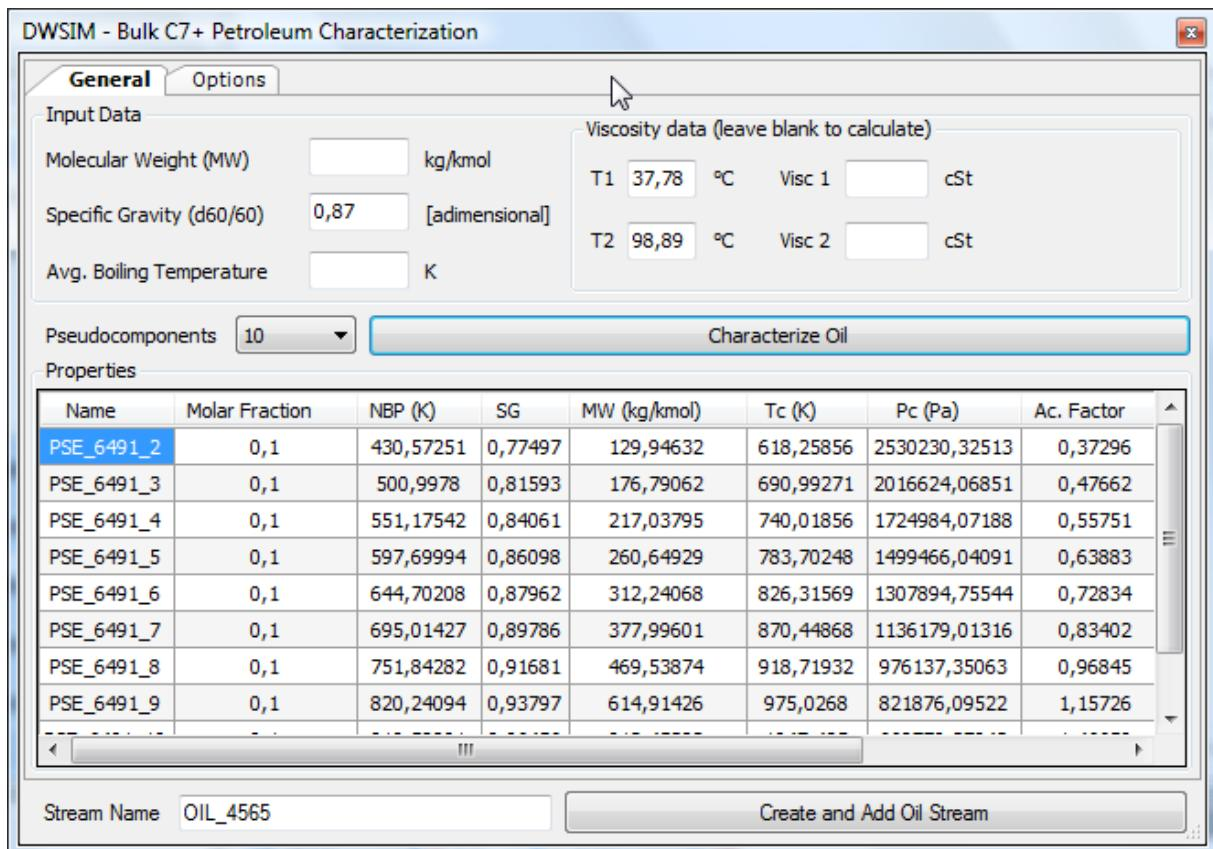
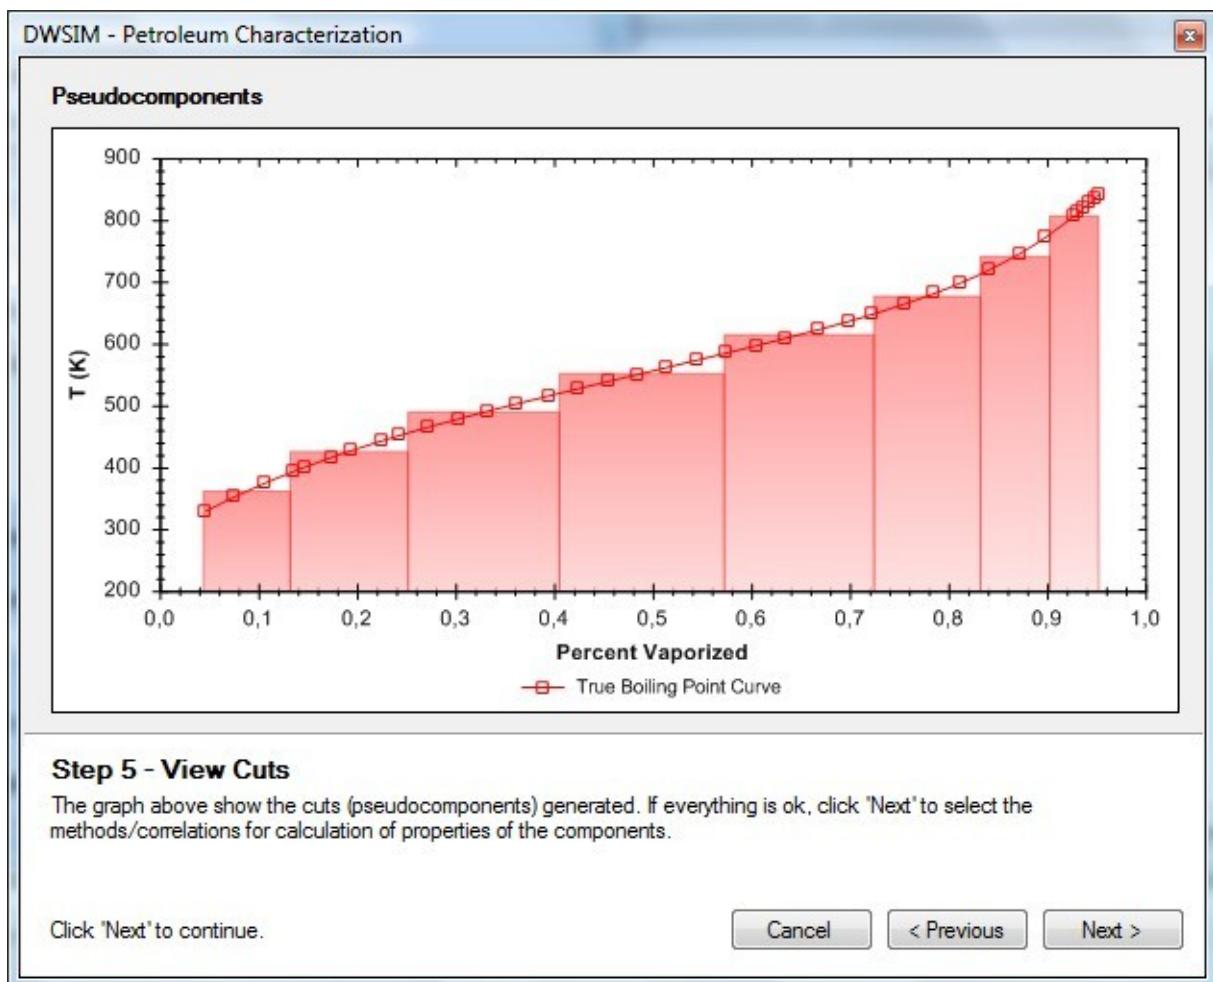

Figure 49: C7+ petroleum fraction characterization utility.
Figure 50: Characterizing petroleum from distillation curves.
DWSIM provides two tools for characterization of petroleum fractions ("Simulation Settings" > "Tools" > "Petroleum Characterization"). One of them characterizes C7+ fractions from bulk properties (Figure 49). The other characterizes the oil from an ASTM or TBP distillation curve (Figure 50).
- **Characterization from bulk properties** The method itself requires a minimum of information to generate the pseudocomponents, though the more data the user provides, the better will be the results (Figure 49). It is recommended that the user provides the specific gravity of the C7+ fraction at least. Viscosity data is also very important.
The interface has a wizard-like style, with various customization options (Figure 50):